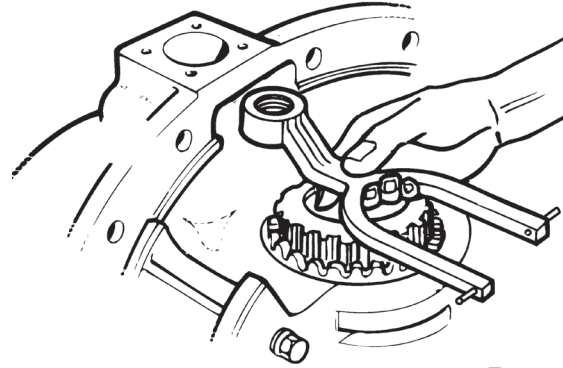

Figure 6.26
5. Install the shift fork into its correct position in the differential case. Figure 6.26.